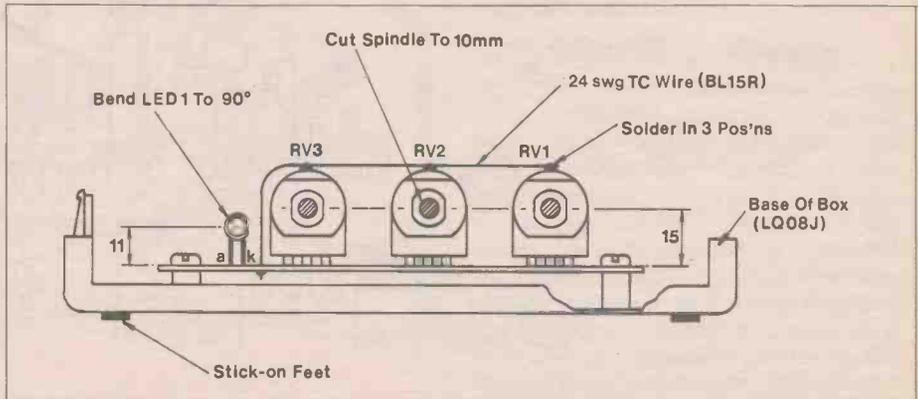

Figure 6. Assembly drawing
The zener diode has a band at one end to identify the cathode connection. Be sure to position it according to the legend. There are only two transistors in the entire project, but you must carefully identify each type and match the case to the outline shown on the legend. Next, install the IC sockets ensuring that you fit the appropriate holder in each position, matching the notch with the block on the legend. Now fit the IC's in the sockets, making certain that they are the correct way round and pushed down firmly into each holder. When mounting LED1 it must be 11 millimetres above the board and bent over at 90°, see Figure 6. The LED has a short lead and a flat edge on one side of its case to identify the cathode (K) connection. When inserting it into the board make sure that it is the correct way round, otherwise it will not light.
Next prepare the three rotary potentiometers by cutting the spindles to a length of 10mm. Install them into the board making certain that they are pushed down firmly on to the surface, see Figure 6. An earthing strap is then soldered to the metal body of each pot and then to the 0V ground near to RV3, see Figure 6.
Mount the four stick-on feet on the base of the unit and secure the board using the self-tapping screws supplied with the Vero box, see Figure 6. Install the power switch on the front panel and slot the back panel into the base. When handling the loudspeaker, be careful not to damage the paper cone or the terminals on the back. Connect the speaker to the wires from the headphone socket and lay the lid to one side of the base.